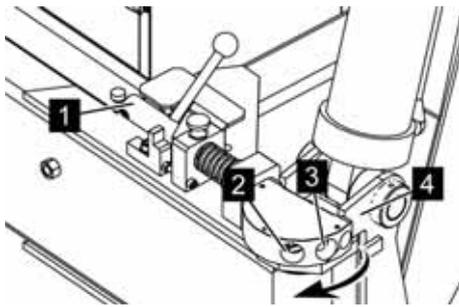

Fig. 59: Working positions
3. → Swivel the outrigger (Fig. 59/4) far enough that the latching bolt (Fig. 59/1) is in front of the hole for the narrow (Fig. 59/3) or wide (Fig. 59/2) working position.